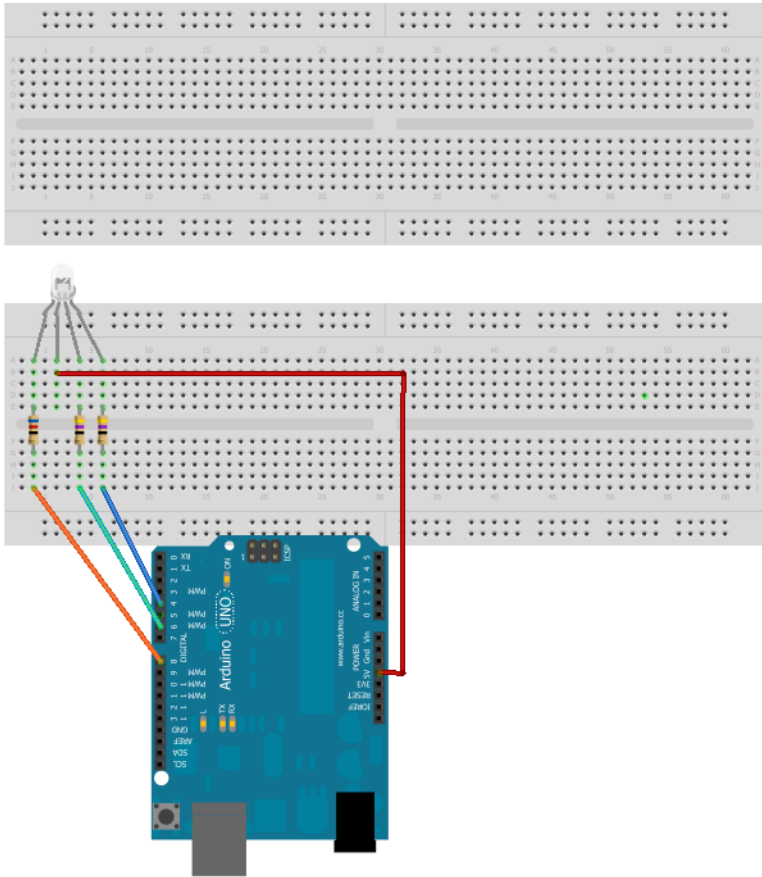

Figure 4-1. Step one.
1. **Connect the RGB LED to Arduino.** Most RGB LEDs are common anode, so follow the datasheet that came with your LED to connect the anode to the +5 pin on Arduino (Figure 4-1). The R, G, and B pins should be connected to Arduino pins 8, 6, and 4, respectively. For our RGB LED, the red cathode needed a 62 ohm resistor, while the green and blue cathodes needed a 47 ohm resistor. (Your values may vary.)